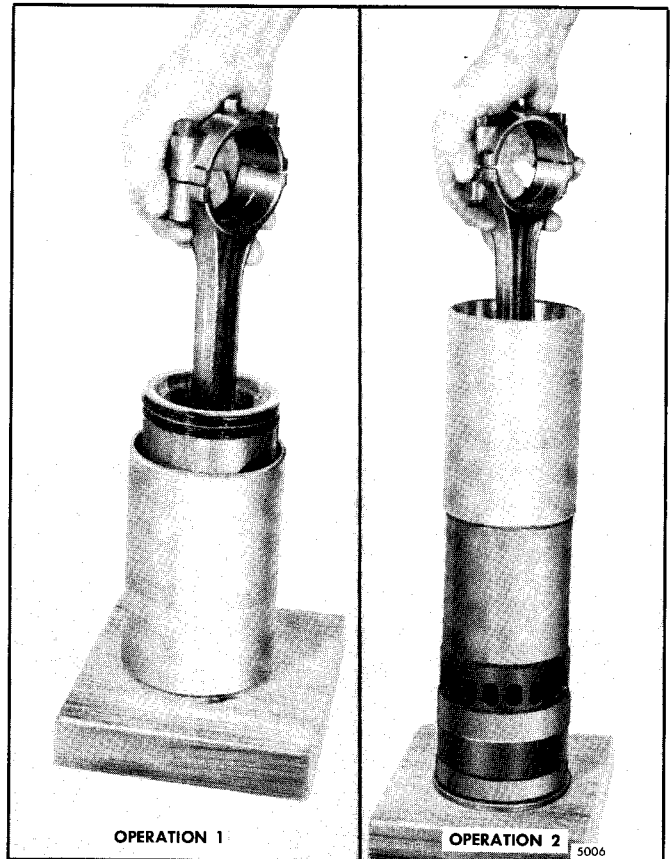

Fig. 8 - Installing Piston and Connecting Rod Assembly in Ring Compressor and Cylinder Liner
4. Start the top of the piston straight into the ring compressor. Then, push the piston down until it contacts the wood block ("Operation 1" of Fig. 8).
matchmark on the liner ("Operation 2" of Fig. 8). The numbers, or number and letter, on the side of the connecting rod and cap identify the rod with the cap and indicate the particular cylinder in which they are used. If a new service connecting rod is to be installed, the same identification numbers, or number and letter, must be stamped in the same location as on the connecting rod that was replaced.